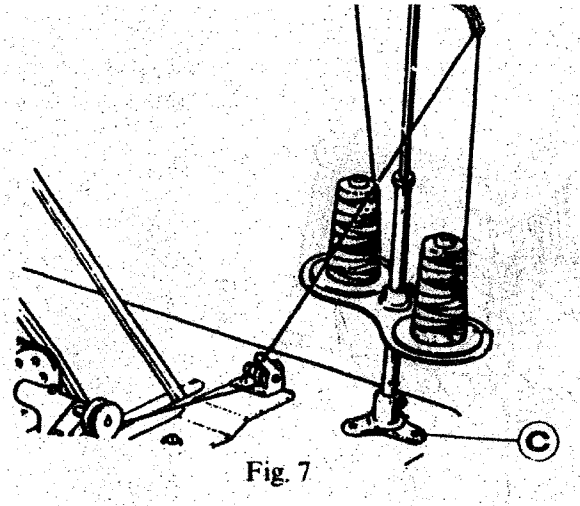

Fig. 7
8) Installing the spool stand (Fig.7)